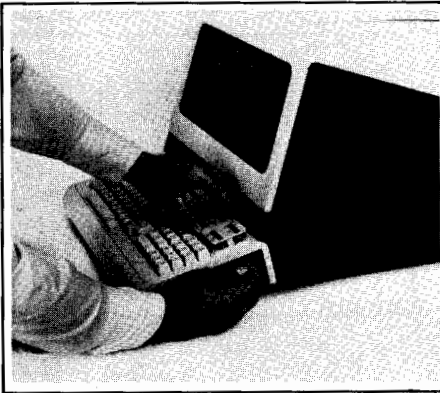

Figure 2-34. Removing a Keyboard Overlay
14. Install the baud rate switch overlay and keyboard overlay on the terminal (see figures 2-34, 2-35, and 2-36).